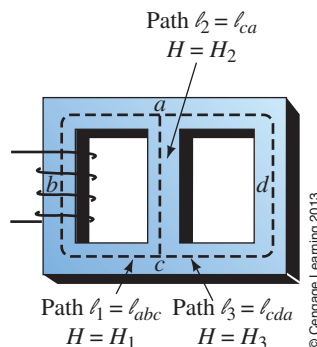

FIGURE 12-22
5. Which is the correct answer for the circuit of Figure 12-22?